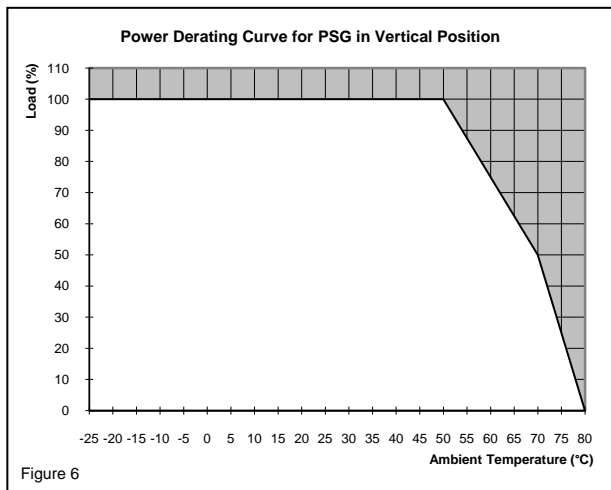

Figure 6
5.4. Thermal behavior (Fig. 6).
| Operating temperature (surrounding air temperature) | -25°C to +80°C (Refer to Fig. 6) |